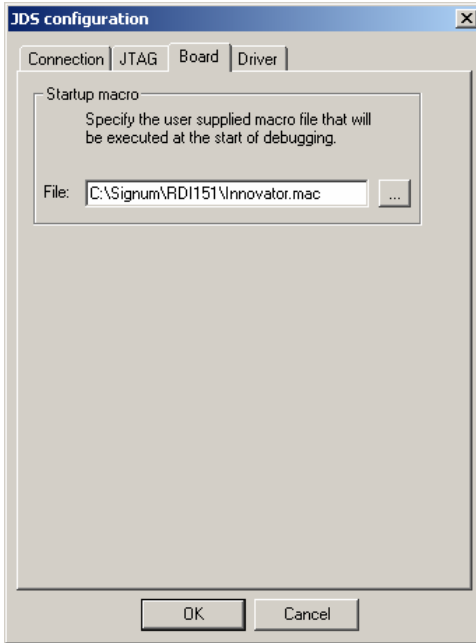

FIGURE 9 Configuring the emulator: the Board tab.
4. Click the Board tab and browse for the startup macro file Innovator.mac or OMAP1510EVM.mac, depending on the target board you are using (Figure 9).